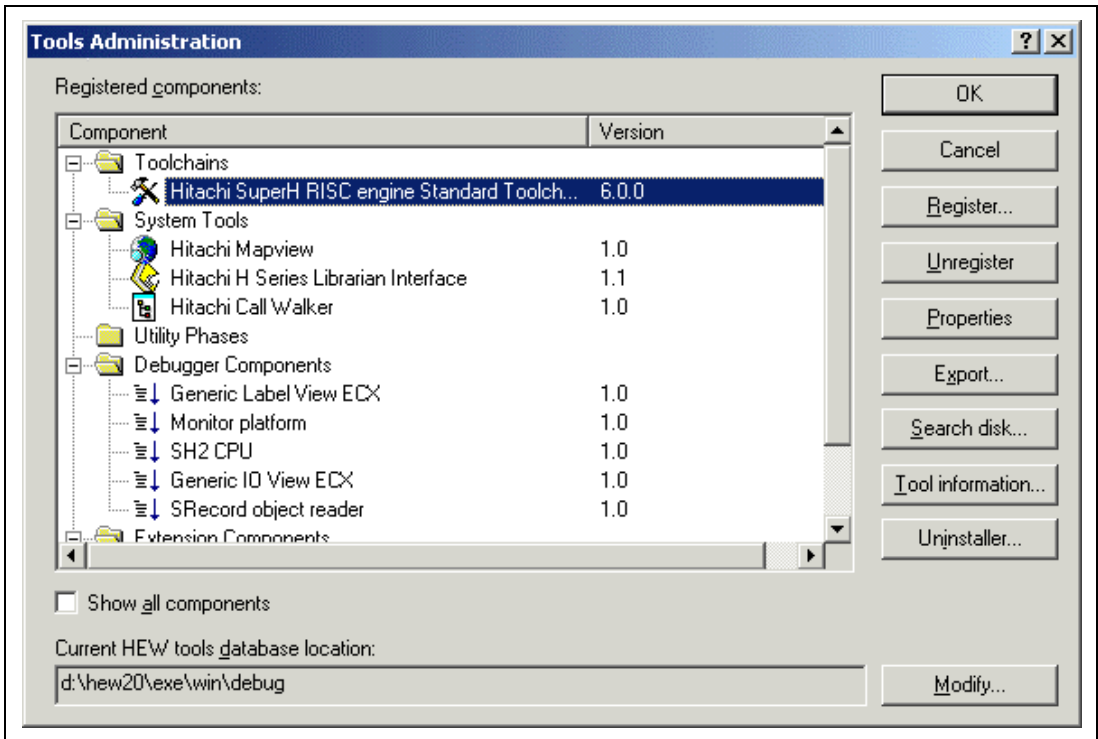
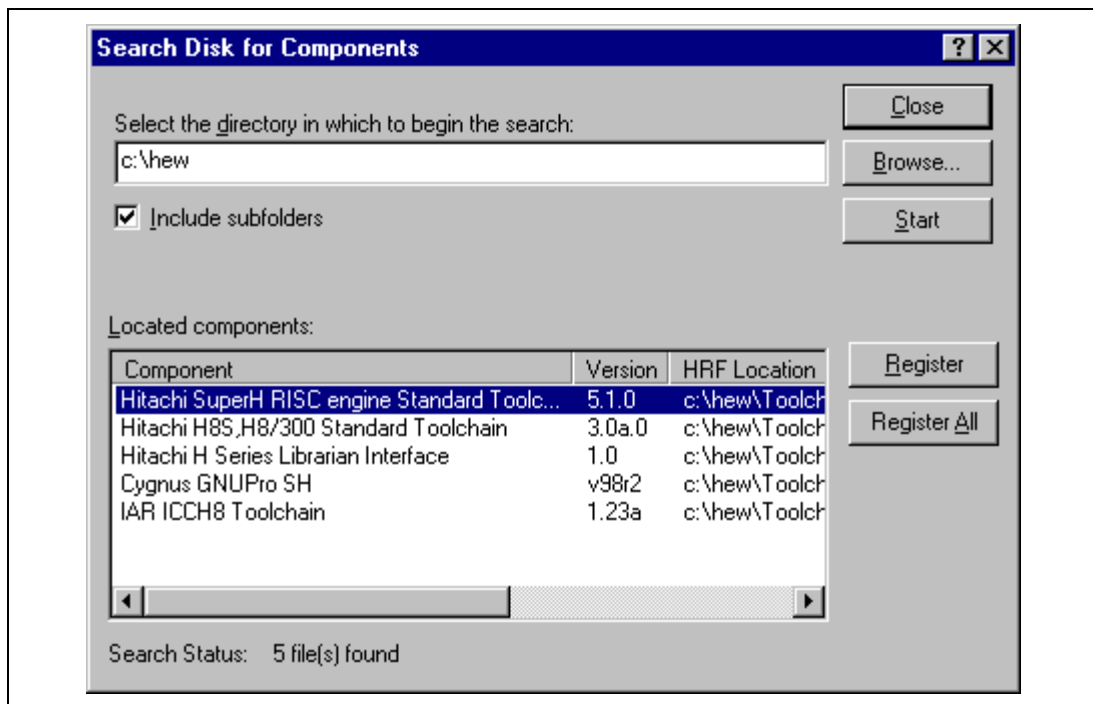

Figure 5.1: Tools Administration Dialog (Example)
Figure 5.3: Search Disk for Components Dialog
You control the components, which can be used by the High-performance Embedded Workshop via the “Tools Administration” dialog * MERGEFORMAT (figure 5.1), which is invoked via [**Tools->Administration...**]. Modification of the “Tools Administration” dialog box is only possible when no workspace is open, while only reference is possible when a workspace is open.
In order to use a component with HEW it must first be registered. The “Tools Administration” dialog * MERGEFORMAT (figure 5.1) shows all currently registered components. To access it, ensure no workspaces are open and then select **[Tools ->Administration...]**. If you attempt to access tools administration when there is a workspace open the tools administration dialog is opened but cannot be modified. When HEW is installed by default any new tools are automatically registered.
1. Click the “Search Disk...” button on the “Tools Administration” dialog * MERGEFORMAT (figure 5.1). The “Search Disk for Components” dialog will be displayed * MERGEFORMAT (figure 5.3).